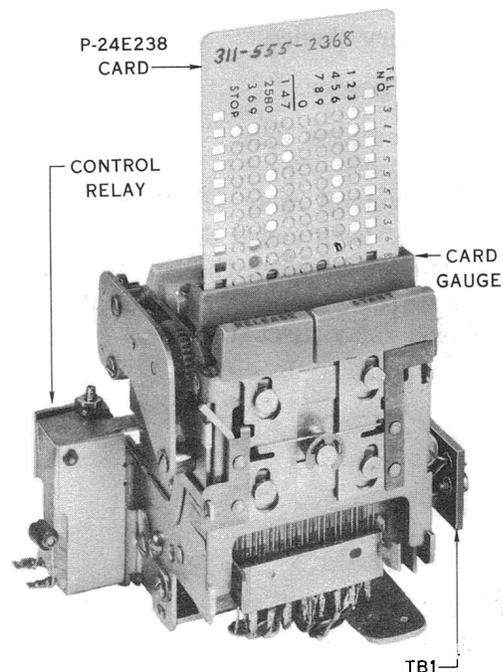
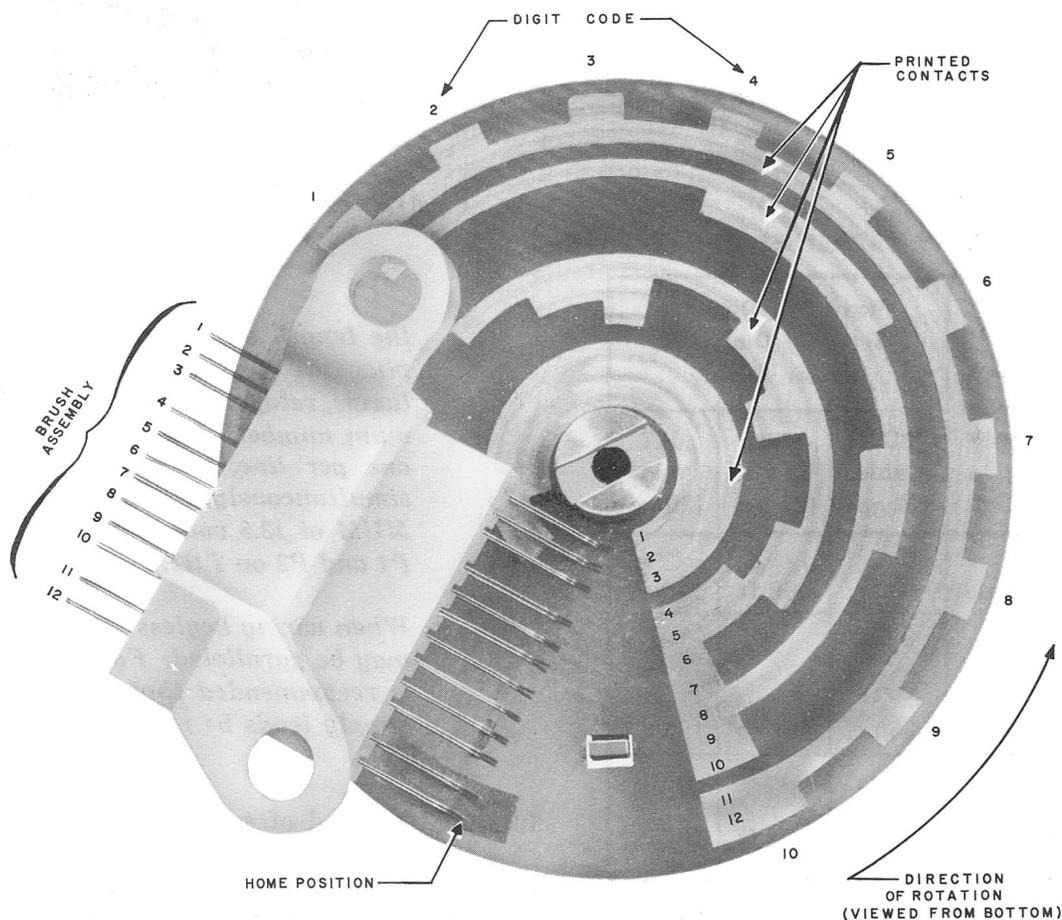

Fig. 1 — 41A Dial with Card Inserted, Front View
Fig. 2 – Commutator Disc, Bottom View
1.05 At the end of each pulsing cycle or coded digit, the commutator disc returns to a home position. (Fig. 2). The home position is provided to ensure that each pulsing cycle will start from the same relative point on the commutator disc.
2.02 The control relay (Fig. 1) operates at the end of each coded digit over the electrical path completed between the commutator disc and the wire spring brushes. (See Fig. 2.) The operation of this relay mechanically:
2.03 The memory device is an injection-molded P-24E238 plastic card. (Fig. 1). The card has eight vertical columns of 14 circular slugs each. Seven of the columns are used for digit information and one for the dial stop function.
2.06 The commutator disc (Fig. 2) is a fiber disc with printed gold contact surfaces. The contact surfaces are arranged in 12 circular arcs. Wire spring brushes ride the contact surfaces to establish switching circuits as the disc rotates.
3.01 A telephone number is coded on the P-24E238 card. This is accomplished by removing two slugs in each horizontal row (Fig. 1) for each digit of the telephone number. The first digit is punched in the top row with the STOP code which is prepunched. The rest of the digits follow row by row until the complete telephone number has been coded. More detailed information on coding the P-24E238 card is located in the sections covering telephone sets using the 41A dial.